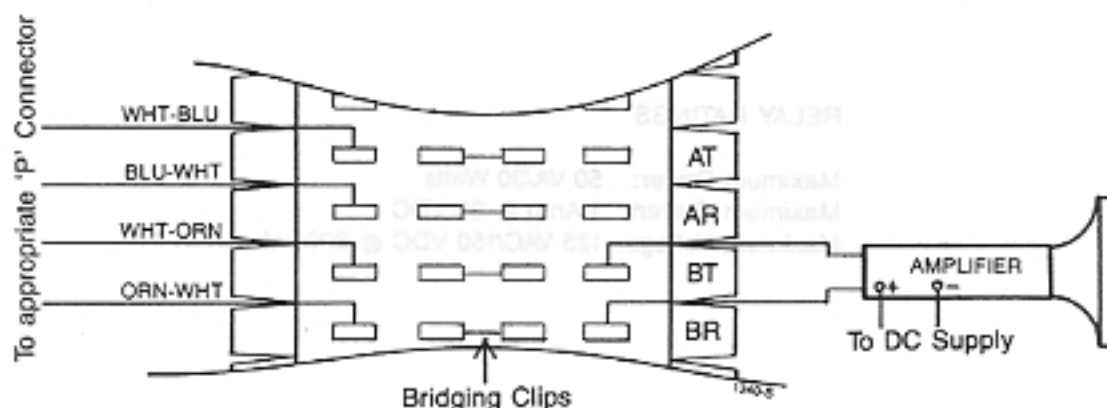

Figure 6-2 EXTERNAL PAGE ZONE CONNECTIONS USING ALL ALTERNATE AUDIO PORT, TCX-128
3.02 A typical Alternate Audio Port connection is shown in Figure 6-2. The amplifiers used for paging should have an input impedance of 600 ohms, or should use a matching transformer from 600 ohms to the input impedance of the amplifier. Match the speakers for external paging to the amplifier. To connect to an Alternate Audio Port:
- (1) Refer to 'E' --> EXTERNAL OUTPUTS programming and Table 4-2 to determine which unused stations are assigned as Alternate Audio Ports.
- (2) Connect the amplifier input to the clips on the connector block corresponding to the B pair wires for the unused station position (Figure 6-2).
- (3) Install bridging clips.